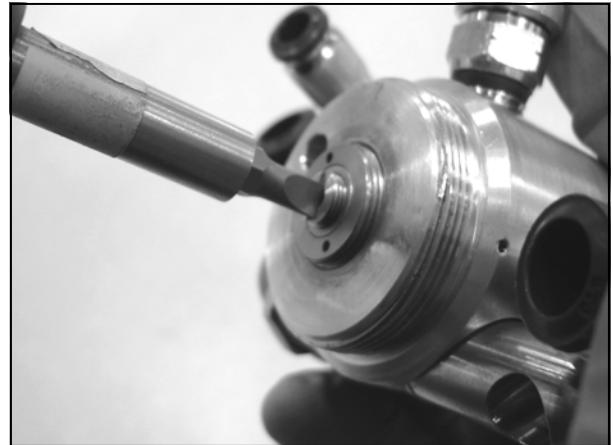

Figure 15
5. Using a flat-blade screwdriver, remove the packing adjustment screw by turning counter-clockwise (See Figure 15).